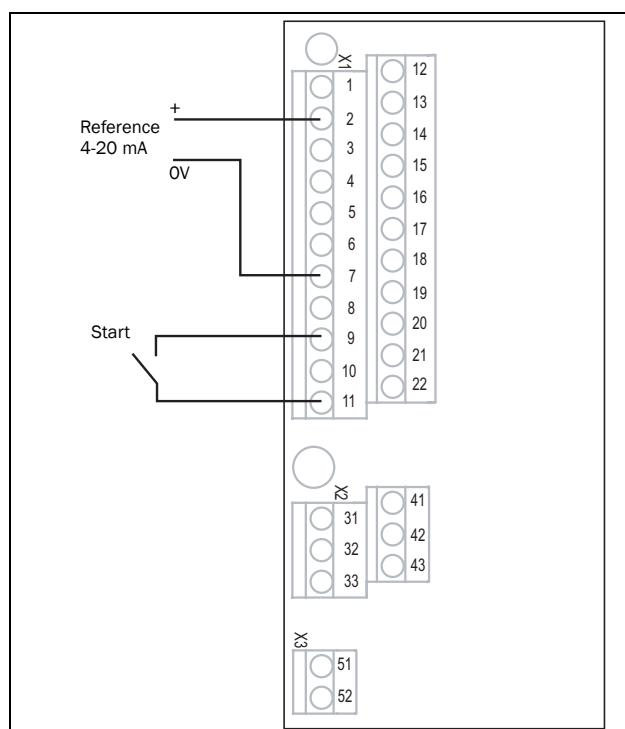

Fig. 56 Wiring
2. Connect a reference value between terminals 7 (Common) and 2 (AnIn 1) as in Fig. 56.
3. Connect an external start button between terminal 11 (+24 VDC) and 9 (DigIn2, RUNNR) as in Fig. 56.
14. Connect digital and analogue inputs/outputs as in Fig. 56.